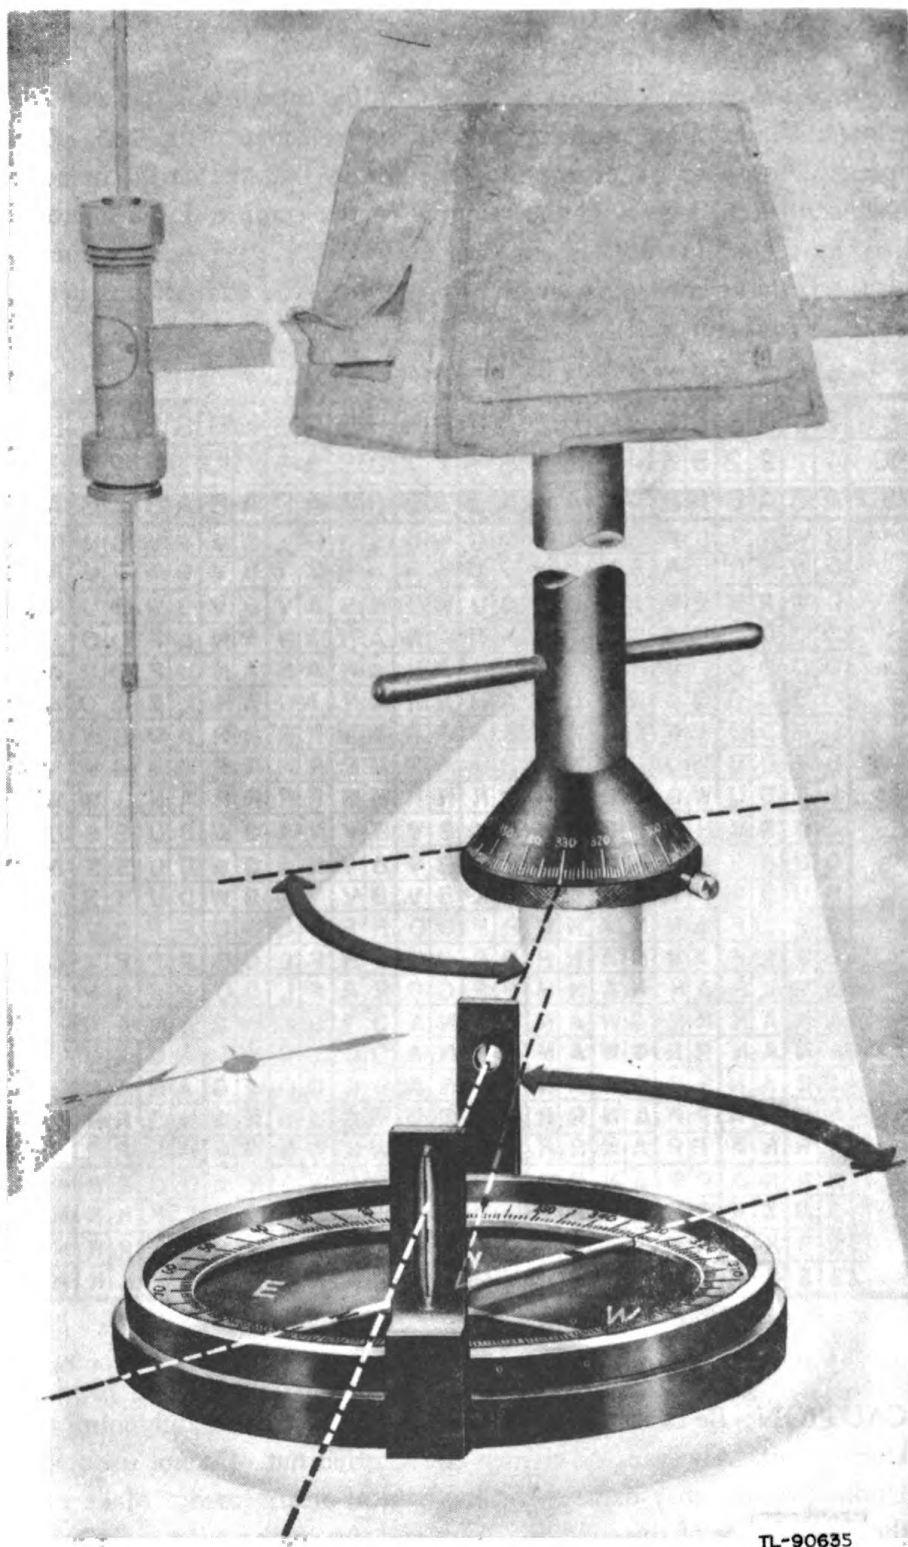

Figure 32. Azimuth correction for beacon.
(3) The compass operator takes the azimuth reading from the compass dial as marked by the south end of the needle, and calls the reading to the beacon operator.
(4) The beacon operator sets the zero set-ring on the antenna mount to zero on the beacon azimuth by loosening the knurled screw on the zero set-ring and turning the ring until zero on the scale is opposite the scribe mark on the zero set-ring and tightens the knurled screw.
(5) The beacon operator then turns the antenna mast to the same azimuth reading as that called by the compass operator. This will place the antenna array parallel with the compass needle (fig. 32).